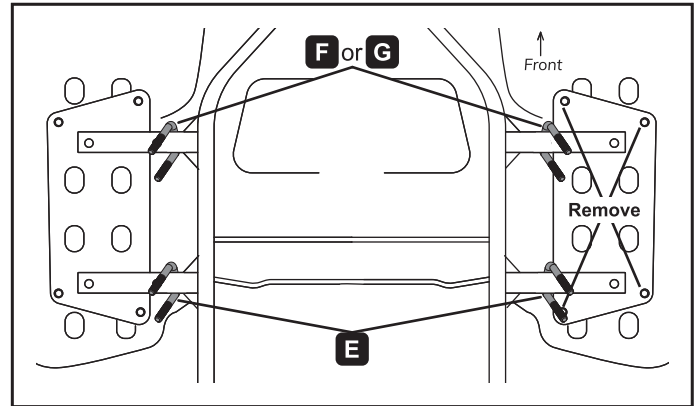

Figure 1.
1. Remove the four bolts located on the left side footrest only as shown in figure 1.
2. Position the U-bolts onto the machine frame as shown in figure 1. Arrange the longer U-bolts (F) or (G) towards the front of the machine and the shorter U-bolts (E) towards the rear, as shown in figure 1.